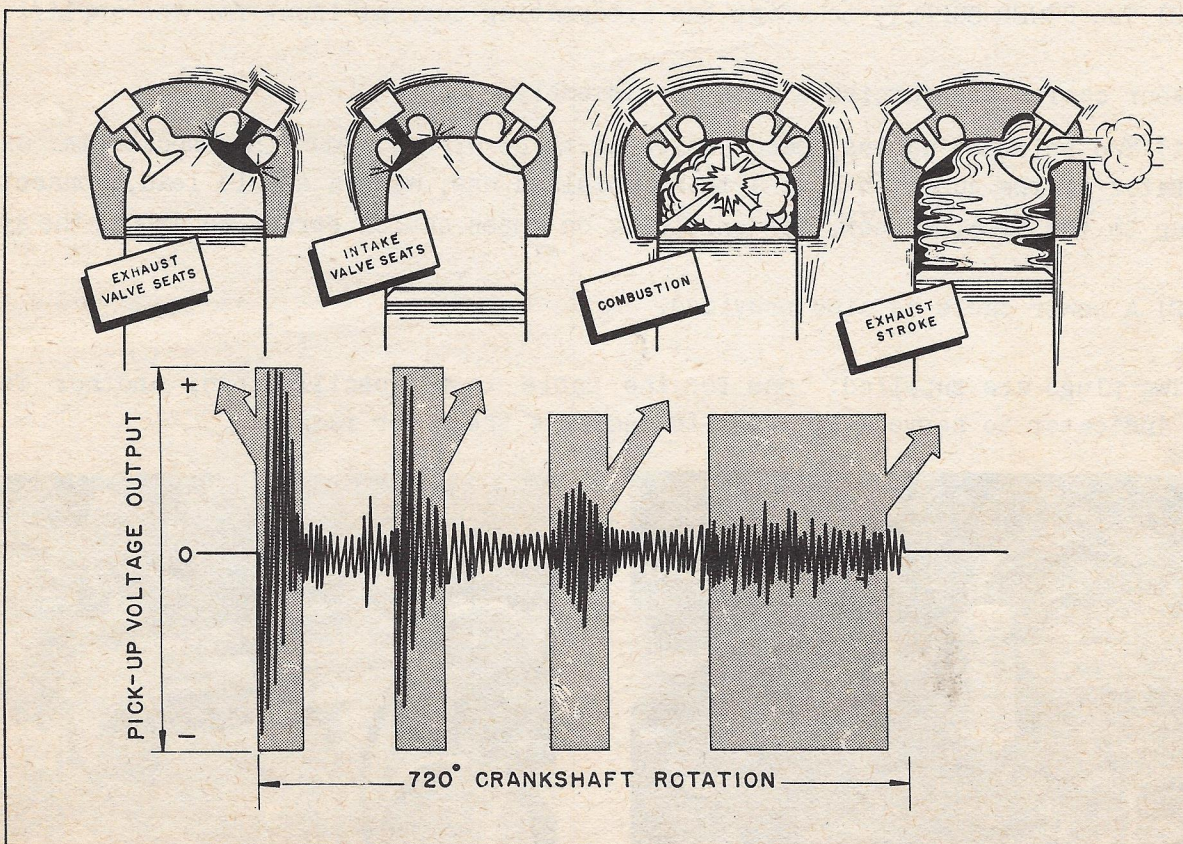

Figure 6 - Schematic - Oscilloscope Impressed with Full Engine Pattern
(2) An engine in operation continuously subjects its cylinder walls to vibration which increases markedly when the exhaust and intake valves close, and, in lesser degree, when combustion takes place and evacuation of the burned charge, through the exhaust manifold, occurs. The pick-up responds to these vibrations and continuously generates proportional voltage output. This output can be impressed on an oscilloscope. (See figure 6.)